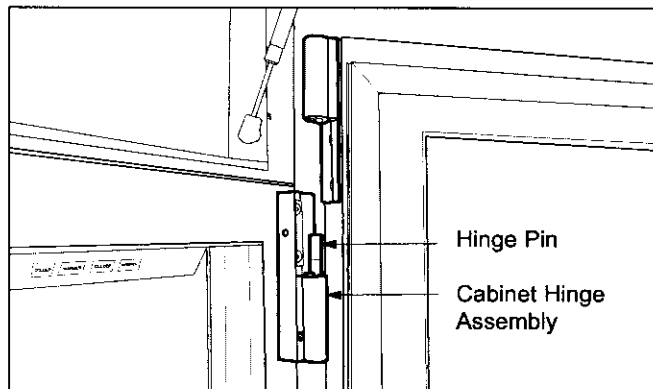

Figure 2-10. Door Removal
2. Open door to about 90 degrees and lift door off the cabinet hinge assembly (See Figure 2-10).